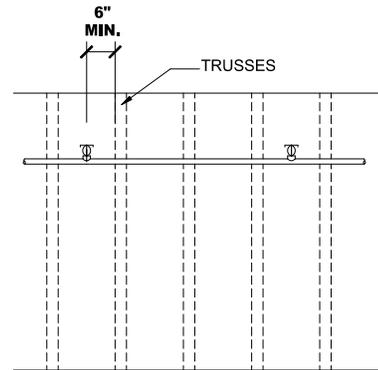

FIGURE 26: MINIMUM REQUIRED LATERAL DIMENSION FROM FACE OF CHORDS AND WEB MEMBERS FOR FL-SA/BB, GAP AND DS SPRINKLERS
- Structural trusses and web members are not considered "obstructions" provided a minimum 6" lateral distance from sprinklers to side of truss/web member is maintained. See Figure 26.
- Sprinklers shall be positioned away from obstructions a minimum distance of Four (4) times the maximum dimension of the obstruction (e.g. Ducts, pipe). This 4X requirement does not apply to truss web members provided the web members do not exceed 6" and the minimum lateral distance of 6" from sprinkler to side of member is maintained.